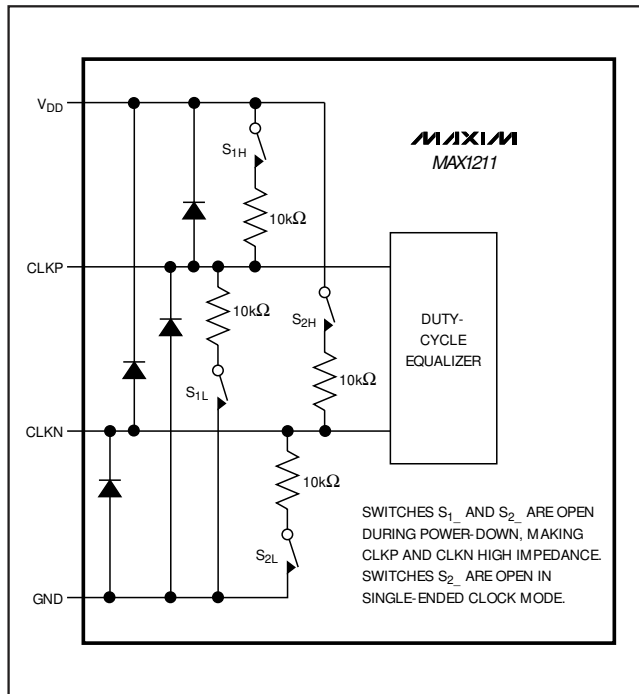

Figure 4. Simplified Clock Input Circuit
CLKP and CLKN are high impedance when the MAX1211 is powered down (Figure 4).
- CLKP, CLKN clock inputs go high impedance (Figure 4).